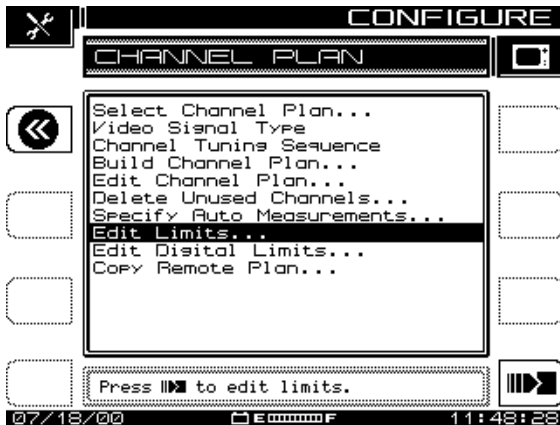

Fig. 3-2 The CHANNEL PLAN Menu Options
The screen displays the top-level CHANNEL PLAN menu shown in Fig. 3-2.
**NOTE:** If you have the QAM option, the CHANNEL PLAN menu will have an Edit Digital Limits option in addition to those shown in Fig. 3-2.
4. Press the Return soft key to return to the screen shown in Fig. 3-2, the CHANNEL PLAN menu.
From the CHANNEL PLAN menu (Fig. 3.2), select Video Signal Type and press the Enter key. The up and down diamond keys toggle between NTSC, PAL, and SECAM in the Edit Box.
At the CHANNEL PLAN menu (Fig. 3.2), select Channel Tuning Sequence and press the Enter key. The up and down diamond keys toggle between Numeric Order and Frequency Order.
Press the **OK** soft key and you're returned to the main CHANNEL PLAN screen shown in Fig. 3-2.